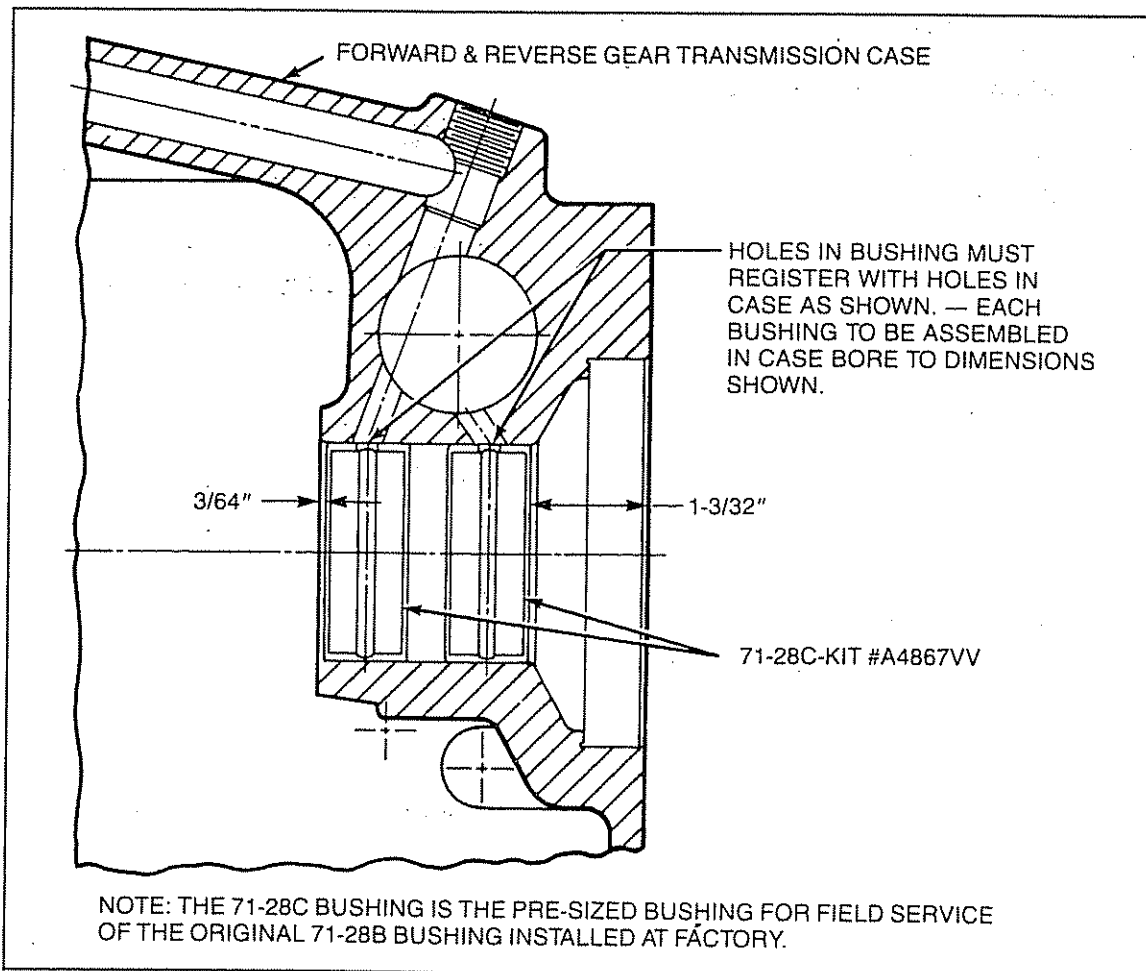

Figure 6. Bushing Installation
**CAUTION:** Transmissions manufactured prior to September 1978 used bushings instead of sealing rings. If bushings were in case they must be installed before assembly of transmission. See Figure 6 for details.